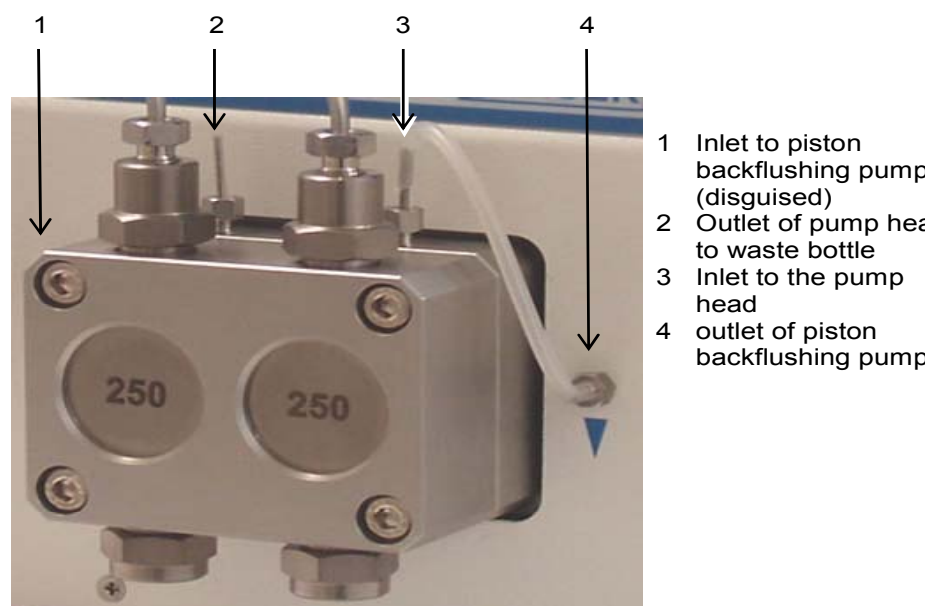

Fig. 20 Piston backflushing capillary connections
1. Connect the silicone tubing from the accessory kit to position 1 and put the other end into the reservoir bottle (see Fig. 20 below).